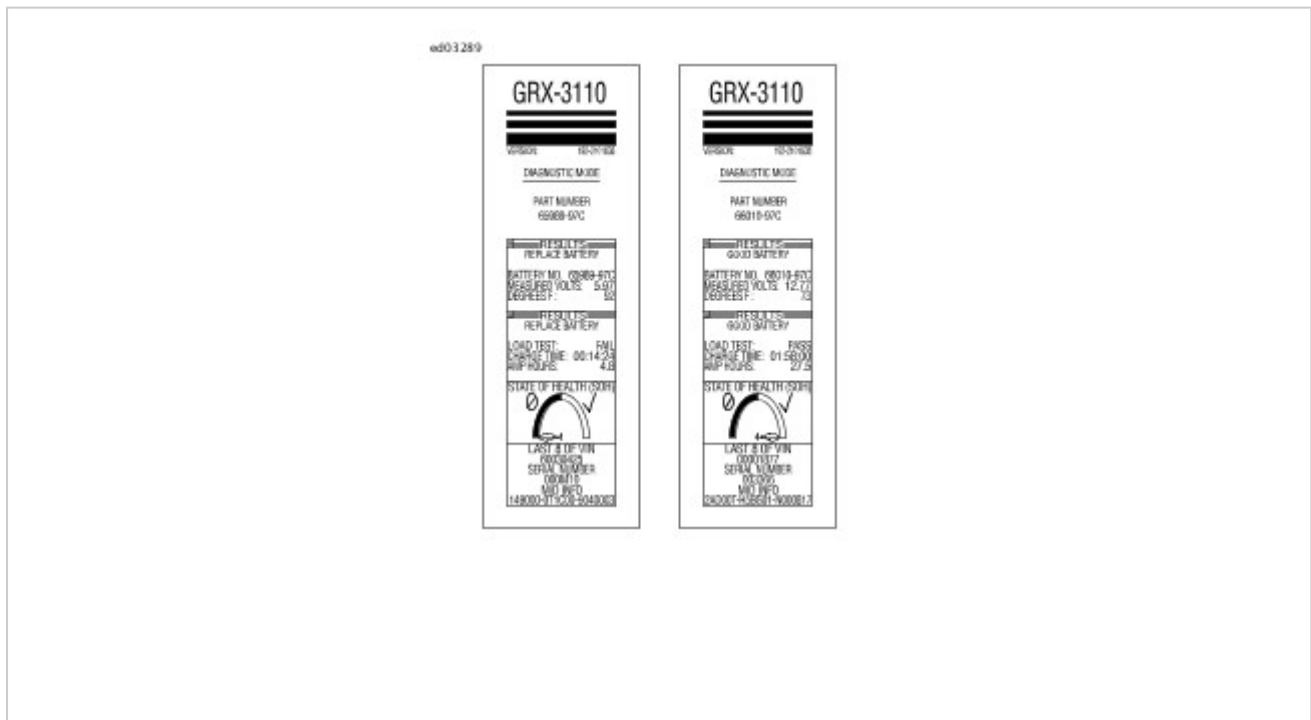

Figure 1. Battery Test Results Printout (Typical)
4. Test results will include a decision on battery condition and measured state of charge. See **Figure 1**. The GRX printer will provide a printout including test results: